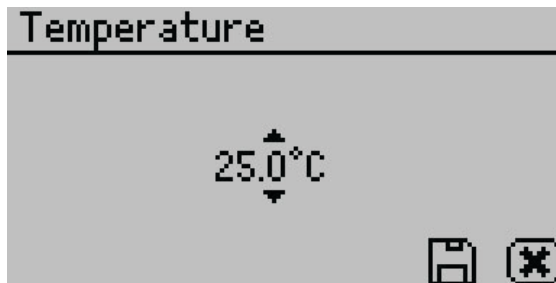

Figure 30 Temperature option
- **Temperature.** Select to set the AQUALAB 4 to the desired temperature using **UP** and **DOWN**. When finished, select **SAVE** (Figure 30).